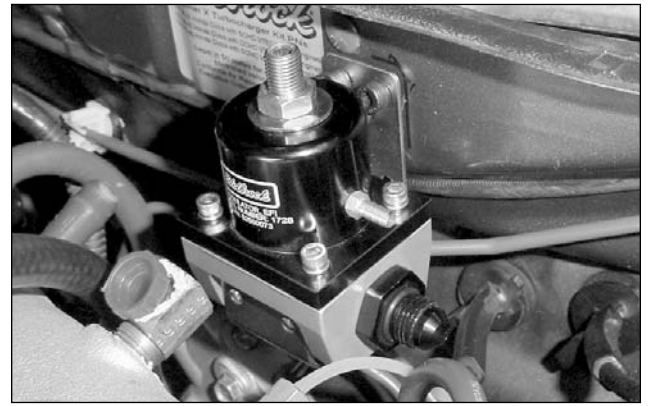

Figure 4 - Regulator Mounted on Firewall
- Using appropriate hardware (sheet metal screws, or bolts & nuts available through your local hardware or auto parts store), mount the fuel pressure regulator to the bracket, and the regulator/bracket assembly to the firewall (**See Fig. 4**).